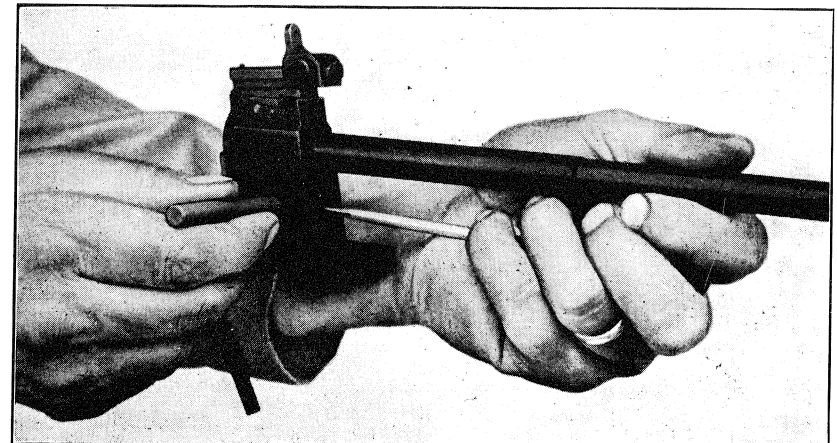

Fig.135
- Compress the lock spring and insert a drift in the seat of the pin (fig. 135).